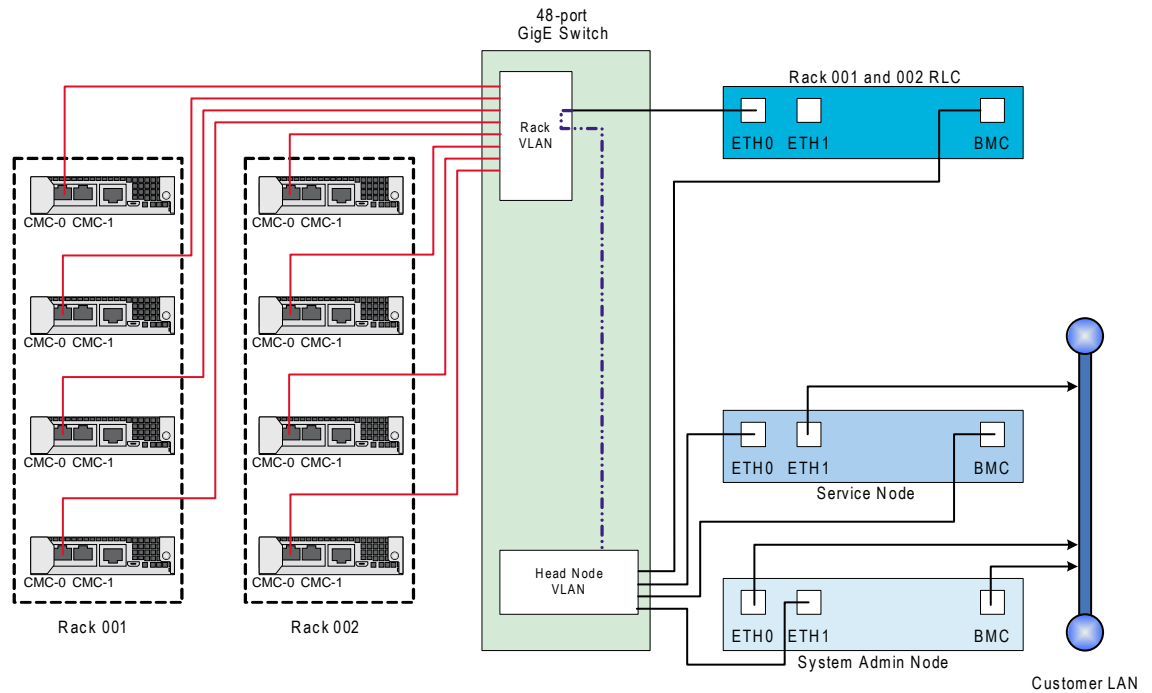

Figure 5-2 Simple CMC LAN (VLAN) Cable Examples
2. Disconnect both power cables, see Figure 5-2 on page 190 for server connection locations.